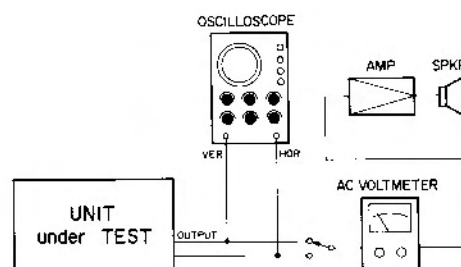

Fig. 2-11. Head Azimuth Test Set-Up
3. Connect an AF level meter and a 50k ohm load to the OUTPUT jack(s) as shown in Fig. 2-11.